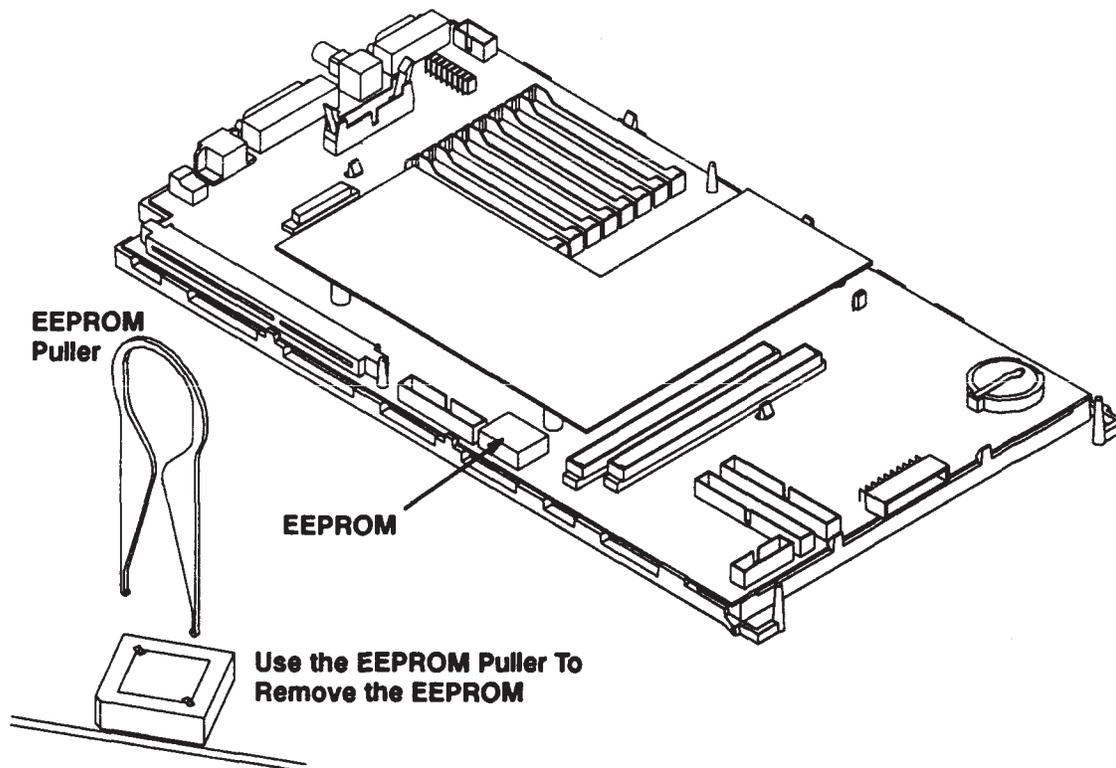

Figure 5-13. Removing the EEPROM (Model 400t and 400dl)
- Use the EEPROM puller (AMP part no. 821903-1) to remove the EEPROM from the defective CPU board and from the new CPU board (see Figure 5-13). Insert the EEPROM from the defective CPU board into the new CPU board, and insert the new EEPROM into the defective CPU board. When you insert the EEPROMs make sure that you orient the flat corner of the EEPROM to the flat corner of the socket, and that the writing on the EEPROM faces up.